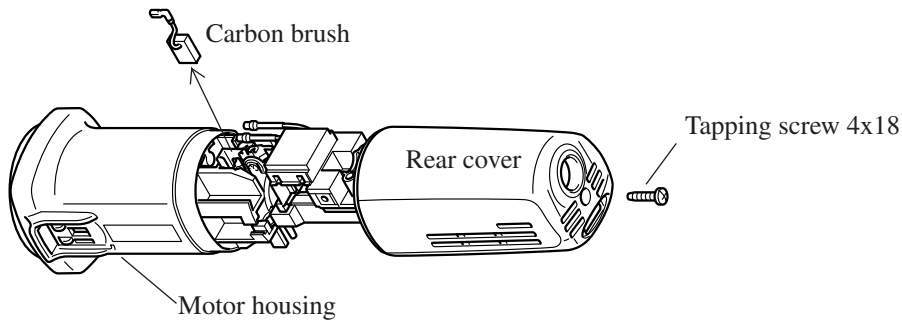

Fig. 1
- 1) Take off tapping screw 4x18 and detach rear cover from motor housing. And detach carbon brush as illustrated in Fig.1.